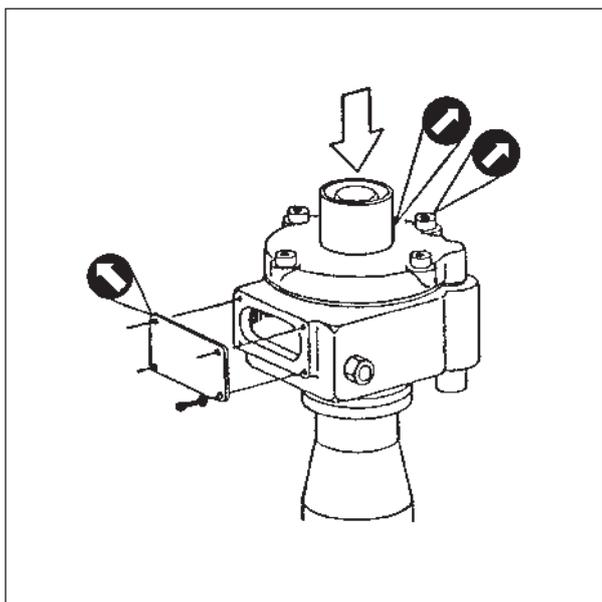

Fig. 1.
3) Remove both covers on the housing of the overspeed tripping device, see fig. 1.